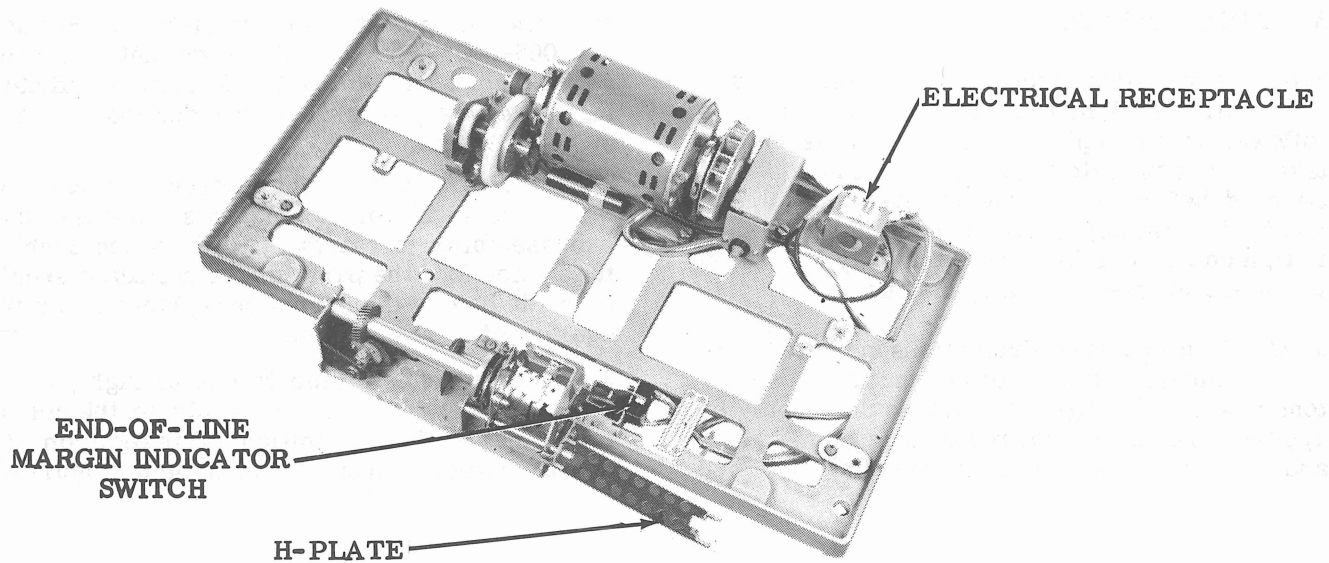

Figure 3 - Typing Unit Base (Wide Platen) With Motor
1.02 The base provides facilities for mounting the Model 37 typing unit and motor unit. Figure 3 illustrates a base which provides mounting facilities for the Model 37 Wide Platen Typing Unit.